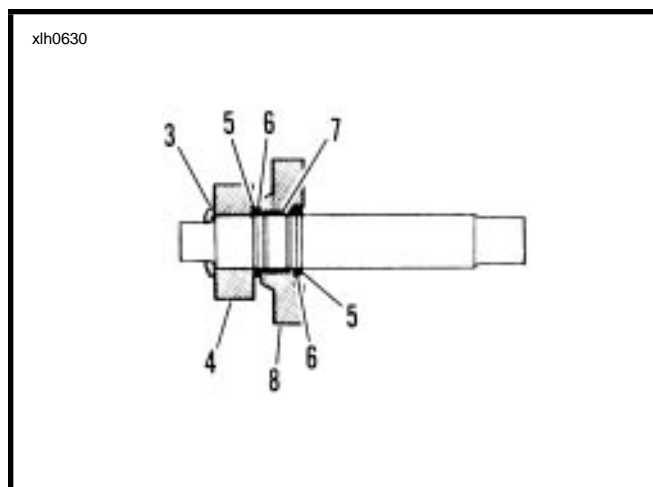

Figure 6-26.
8. See Figure 6-26. Remove beveled spacer (3) and countershaft 4th gear (4).
9. Expand retaining ring (5) located next to countershaft 1st gear (8). Remove retaining ring (5) and thrust washer (6). Slide countershaft 1st gear off end of shaft. Remove split bearing (7).
10. Remove thrust washer (6). Expand remaining retaining ring (5) and slide off shaft. This completes disassembly of countershaft.